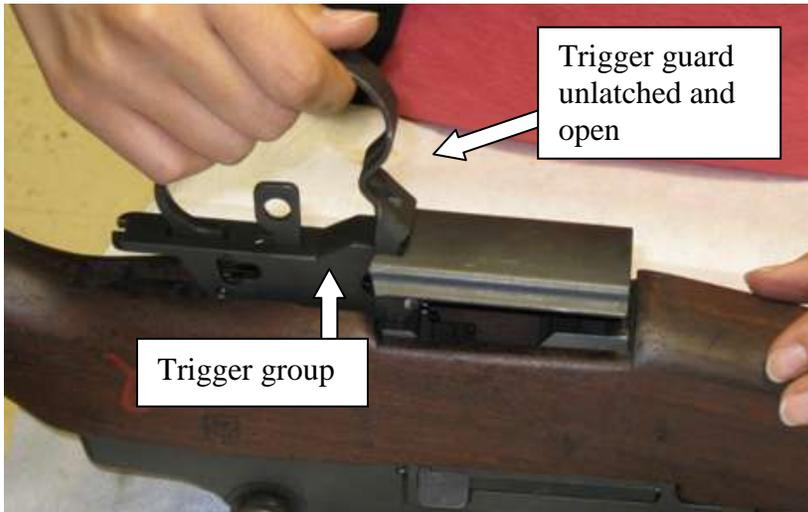

Figure 51 -Insertion of trigger group
- 2) Unlatch and open the trigger guard. Keeping the trigger group level, insert it straight down into the receiver, making sure that the locking lugs on the trigger guard enter their recesses in the receiver (fig 51). Close the trigger guard and latch it by pressing firmly down until it locks. You may need to strike it with the heel of the hand.